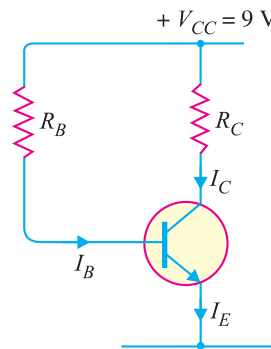

Fig. 9.49
3. Fig. 9.49 shows biasing by base resistor method. If it is required to set the operating point at 1mA, 6 V, find the values of R_C and R_B . Given $\beta = 150$, $V_{BE} = 0.3\text{ V}$.